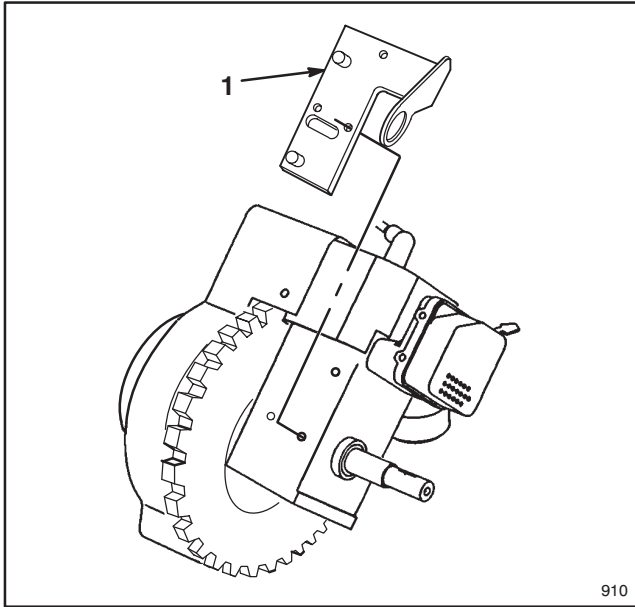

Figure 9
11. Install new motor mounting bracket (Fig. 9) with correct fasteners. For units with studs, you will need (2) two new 1/4-20 nuts and a screw provided in kit. For units without studs, you will need (3) three new 1/4-20 screws provided in kit.